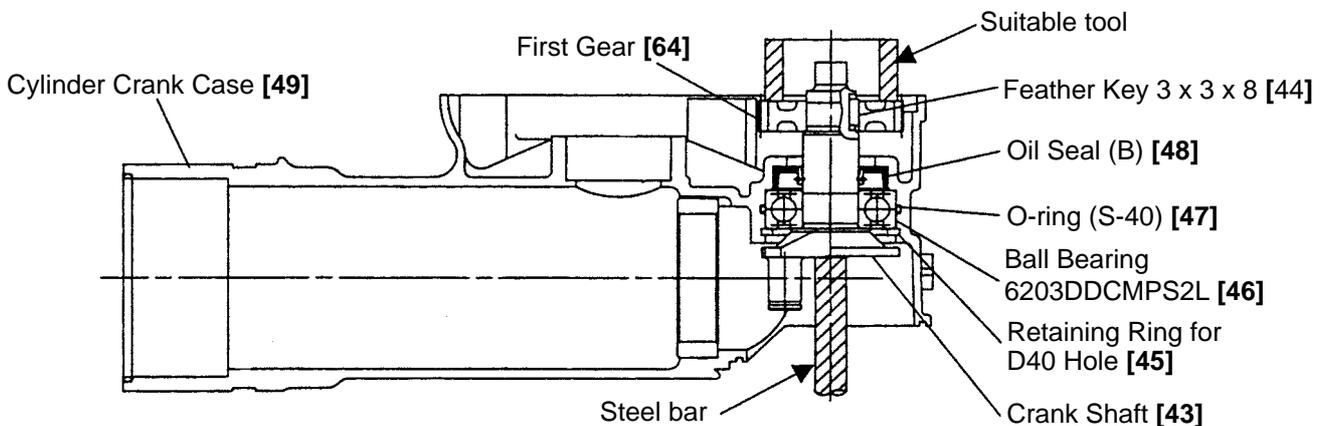

Fig. 20
(1) Reassembly of the first gear and the crank shaft
Press-fit Oil Seal (B) [48] into the Cylinder Crank Case [49] and mount O-ring (S-40) [47]. Press-fit the Ball Bearing 6203DDCMPS2L [46]. Mount the Retaining Ring for D40 Hole [45] using a retaining ring puller. Press-fit the Crank Shaft [43] into the Ball Bearing 6203DDCMPS2L [46]. Put the Feather Key 3 x 3 x 8 [44] in the groove of the Crank Shaft [43] and press-fit the First Gear [64] with a suitable tool while holding the flat portion of the Crank Shaft [43] with a steel bar. Before press-fitting, make sure that the Feather Key 3 x 3 x 8 [44] fits in the key groove of the First Gear [64] (Fig. 20).